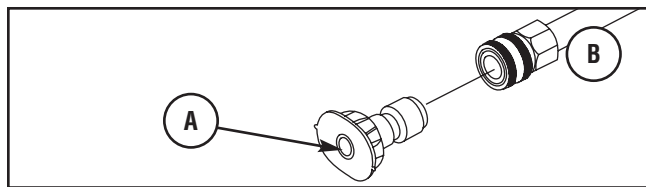

Figure 34 — Nozzle Maintenance
2. Use a small paper clip to free any foreign material clogging or restricting spray tip (A) (see Figure 34).
3. Remove nozzle extension (B) from spray gun.